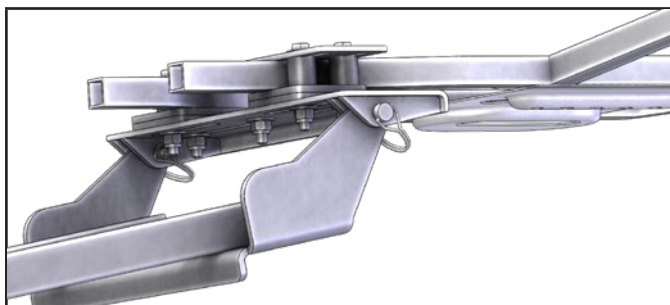

Figure 12 - Tube System Attachment
11. Attach the tube system to the Hybrid Mount System, by first positioning the tube system, with blade installed, under your ATV. Then raise tube attach points to the mount and line up the holes on mount plate with the holes in the tube system. Insert Pin through holes and secure on other side with clips as shown in Figure 12.